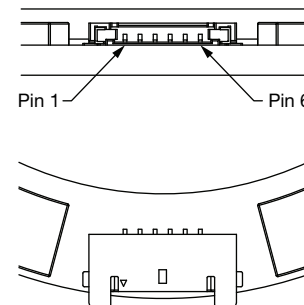

Fig. 4
4. Plug the "wires user connector" in the encoder according to Fig. 4 and "Encoder pinout" (see "BiSS-C Compatible Connector" table).